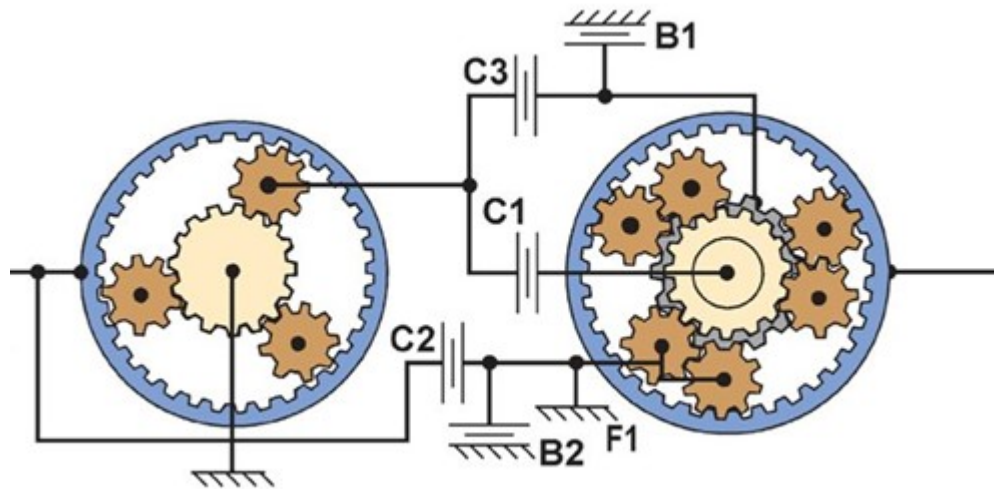

Figure 30
- **Lepelletier.** As shown in figure 30, Lepelletier gear designs are a combination of both Simple and Ravigneaux. They are used in many 6-speed units.